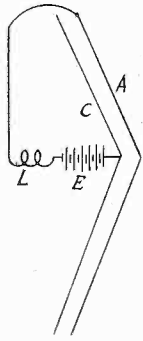

FIG. 5
A unit working on the electrostatic principle is shown in diagram in Fig. 5. (A) is the armature and can well be a large metallic cone, or a paper cone to which tin foil has been attached. (C) is another conductor of electricity, placed close to the armature. It should be rigidly attached to the mountings so that it cannot move. It is obvious that (A) and (C) form two plates of an electrostatic condenser. A high steady polarizing voltage is applied between these two plates by means of a battery (E). In series with this battery is a coil (L) in which a signal voltage is induced by the output of a receiver. The battery (E) causes plate (C) to exert a steady pull on plate (A). This pull is varied by the voltage induced in (L), and the result is that a varying pull is exerted on plate (A). If (A) is free to vibrate it will do so and radiate sound.